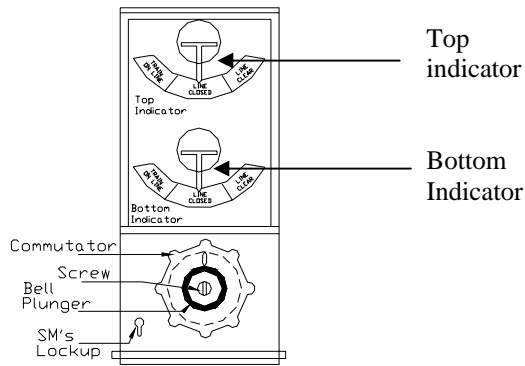

Fig. 1: Front view of SGE double line block instrument
- Ensure that SM's key cannot be extracted in unlocked position i.e. it can be taken out only after turning the key clock-wise for locking the commutator handle.(refer Fig.1).